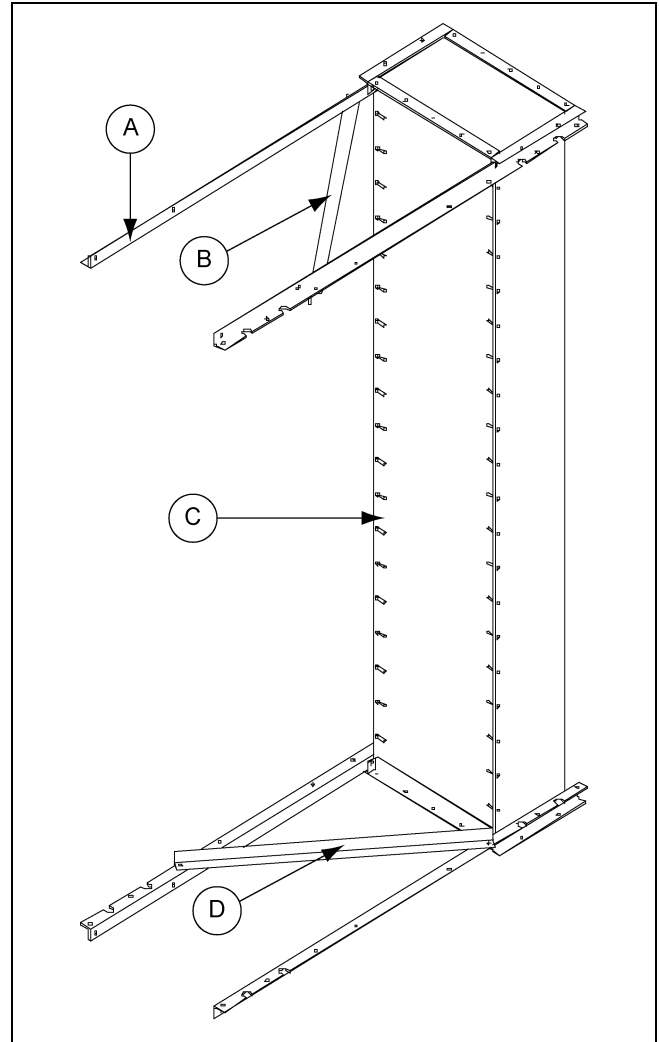

Figure 7B Galvanized Trunking
**IMPORTANT:** Galvanized steel trunking **MUST** have the riveted (huck bolted) seams located to the inside, facing each other on the up-leg and the down-leg. (See Figure 7B.)
**NOTE:** Trunking sections come complete with appropriate hardware and two (2) tie angles. Units containing 42" diameter or larger pulleys have a cross tie angle included for additional support.